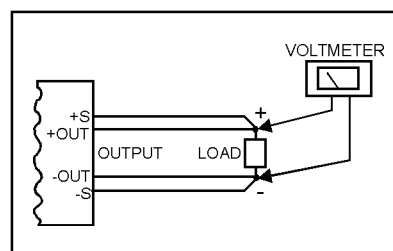

Figure 1. Measuring Regulation
- 5.1 Line and load regulation should be checked with the connections shown in Figure 1. Loads should be applied to all outputs and the applicable sense leads should be connected with proper polarity to the load points. Voltages should be measured at the sense leads at the load points.